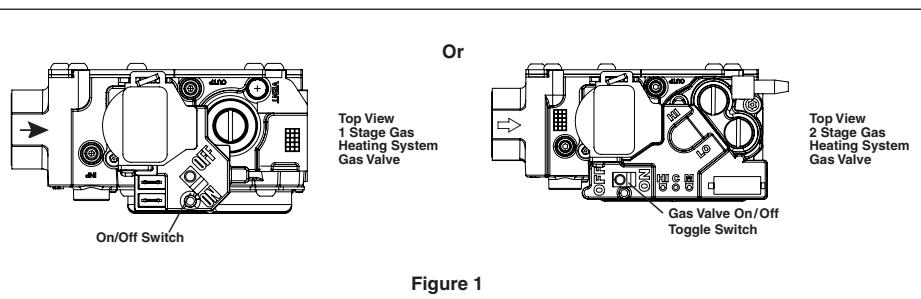

Figure 1
4. Remove the front panel to gain access to the main gas valve (See Figure 1).
3. Remove the gas heating system front panel to gain access to the main gas valve (see Figure 1).